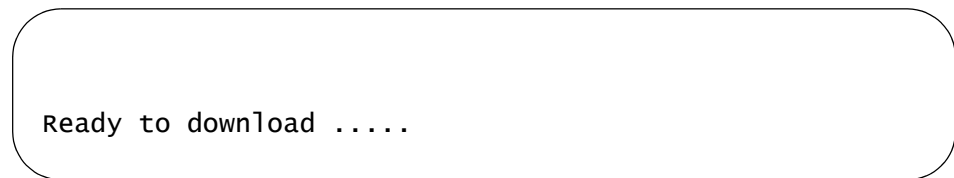

Figure 52. XModem - Software Image Downloading Window
If you enter **Y**, the following screen is displayed, as shown in Figure 52.
5. If you enter **Y**, the following screen is displayed, as shown in Figure 52.